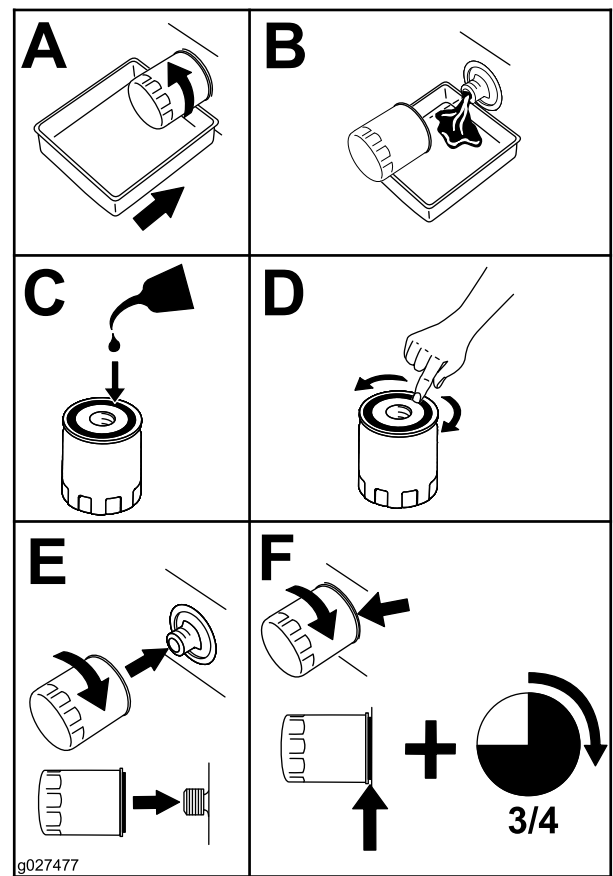

Figure 42
6. Replace the engine-oil filter as shown in Figure 42.